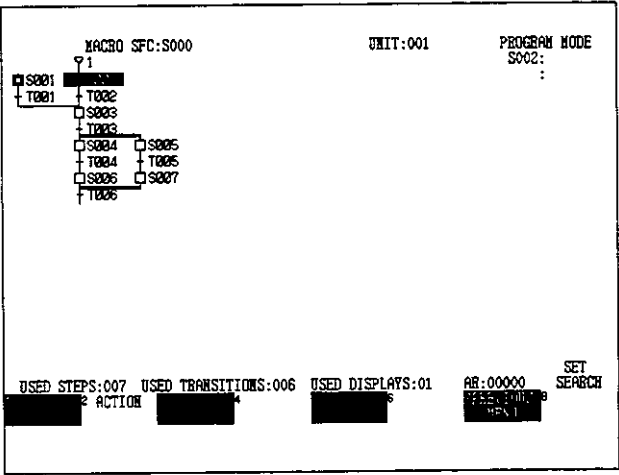

Figure 7.80
- (1) Be sure the Memory Protect Switch of the GL60S, GL60H, or GL70H is turned OFF.
- (2) If the cursor is at a transition element, select Delete Transition.
- (3) If Cancel is selected instead of Confirm, the screen will return to the one shown in *Figure 7.80*.
- (4) This operation cannot be used on an active step.
- (5) If a macro step is to be deleted, it must be deleted from its subscreen.